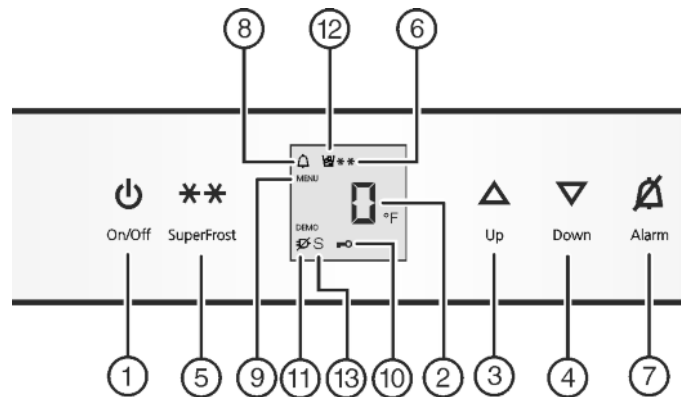

Fig. 2
- Press On/Off button Fig. 2 (1).
- ▶ Activate setting mode: Press SuperFrost button *Fig. 2 (5)* for about 5 seconds.
- ▷ The Menu symbol *Fig. 2 (9)* lights up.
- ▶ Using Up button *Fig. 2 (3)*/ Down button *Fig. 2 (4)* select °.
- ▶ To confirm: Briefly press SuperFrost button *Fig. 2 (5)*.
- ▶ Using Up button *Fig. 2 (3)*/ Down button *Fig. 2 (4)* select °F or °C.
- ▶ To exit setting mode: Press On/Off button *Fig. 2 (1)*.
- ▶ Activate setting mode: press and hold the SuperFrost button *Fig. 2 (5)* for approximately 5 s.
- ▶ Using the Up button *Fig. 2 (3)* or Down button *Fig. 2 (4)*, select c.
- ▶ Press the SuperFrost button *Fig. 2 (5)* briefly to confirm. When c1 is shown on the display:
- ▶ To switch on the child-proof lock, press the SuperFrost button *Fig. 2 (5)* briefly.
- ▷ The Child safety symbol *Fig. 2 (10)* lights up. c flashes on the display.
- ▶ To switch off the child-proof lock, press the SuperFrost button *Fig. 2 (5)* briefly.
- ▷ The Child safety symbol *Fig. 2 (10)* goes out. c flashes on the display.
- ▶ Deactivate setting mode: press the On/Off button *Fig. 2 (1)*.
- ▶ Press Alarm button *Fig. 2 (7)*.
At the same time, the Alarm symbol *Fig. 2 (8)* will flash.
The audible warning automatically ceases, the Alarm symbol *Fig. 2 (8)* goes out, and the temperature display stops flashing when the temperature is cold enough again.